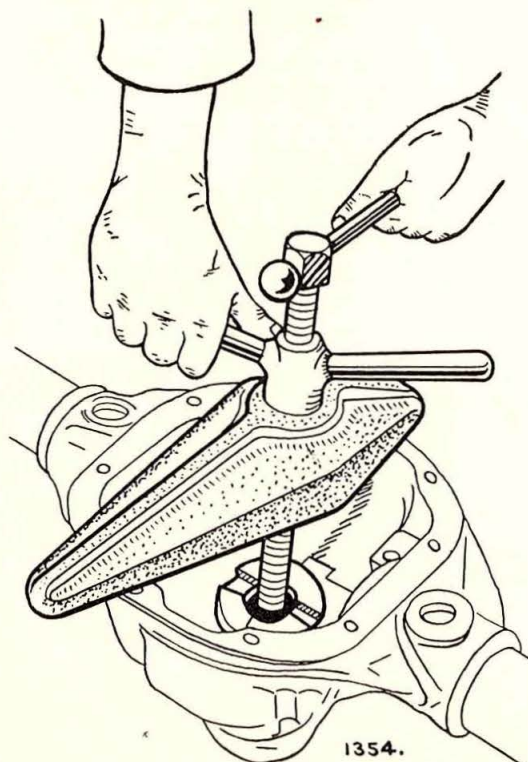

Fig. 8. Removal of the inner bearing cup.
- (1) Remove the pinion nut and washer.
- (2) Withdraw the universal joint companion flange with a suitable puller.
- (3) **PRESS** the pinion out of the outer bearing. It is important that the pinion should be pressed and not driven out to prevent damage to the outer bearing. The pinion, having been pressed from its outer bearing, may now be removed from the gear carrier housing. Note : Keep all shims intact.
- (4) Remove the pinion oil seal together with the oil slinger and outer bearing cone.
- (5) Examine the outer bearing for wear and, if replacement is required, extract the bearing cup, using Tool No. SL.12 shown in Fig. 8.
- (6) Remove the pinion inner bearing cup, as shown in Fig. 8, using Tool No. SL.12, if the bearing requires replacement or adjustment of the pinion setting is to be undertaken. Take care of the shims fitted between the bearing cup and the housing abutment face.